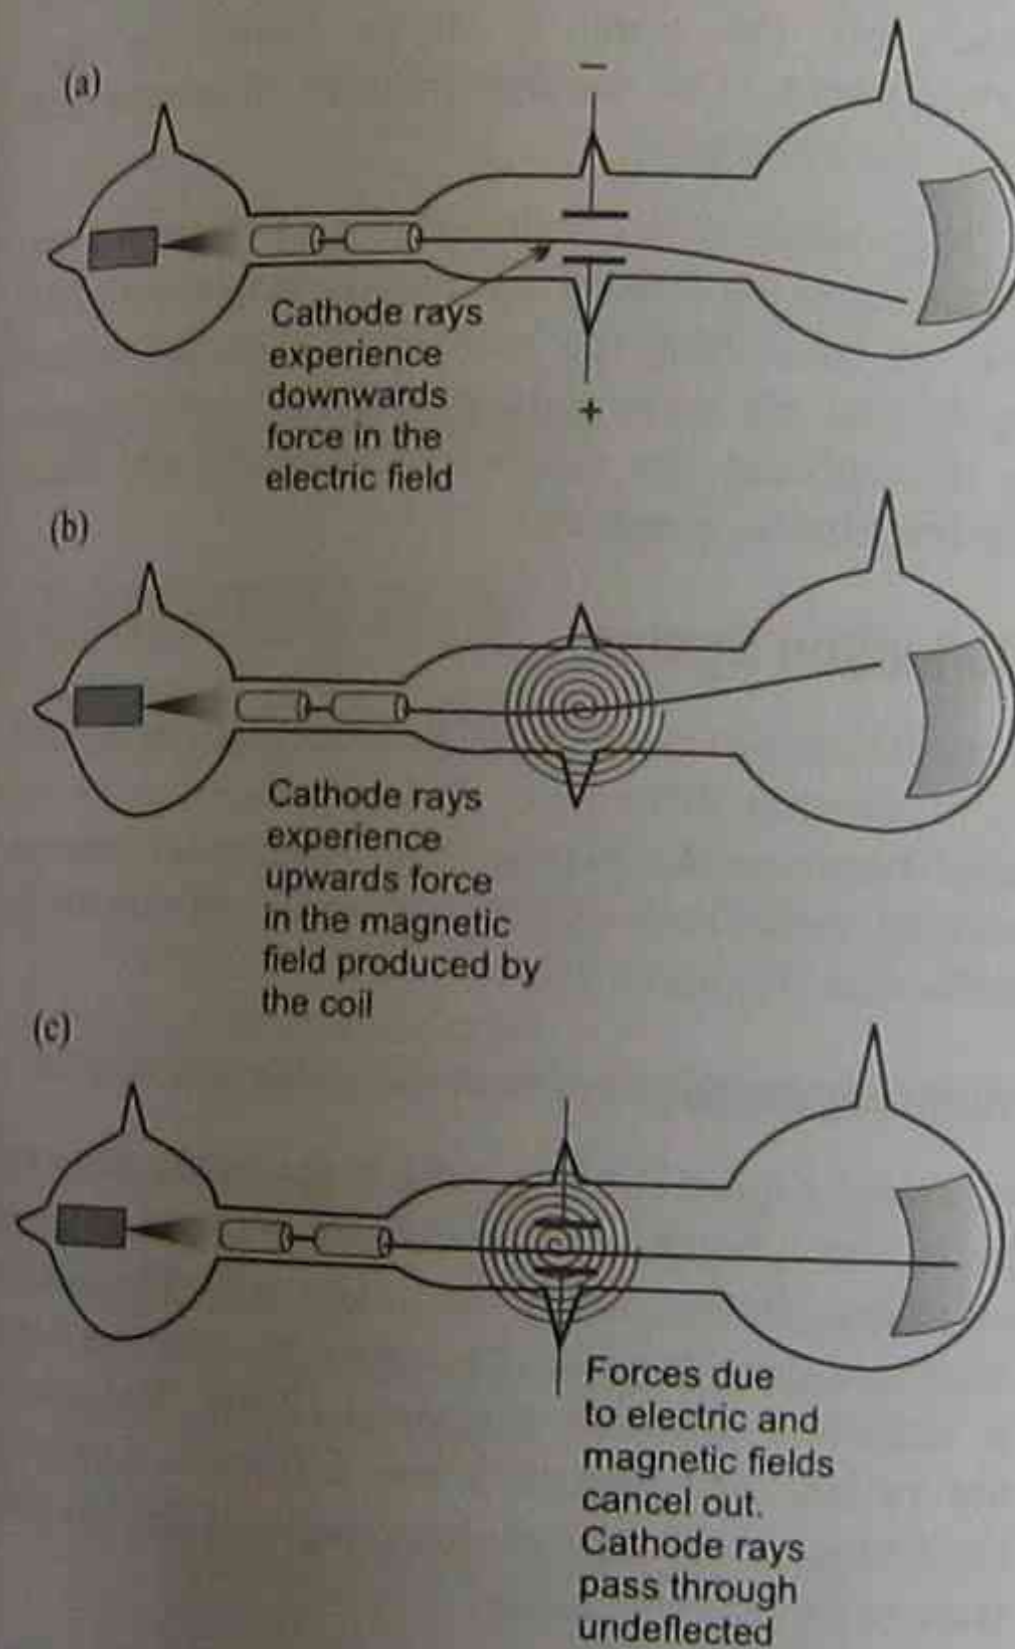

Figure 3.10 Determining q/m
By the time Thomson performed his experiment the effects of electric and magnetic fields on charged particles were well known. Thomson arranged electric and magnetic fields in his cathode ray tube so that he could 'balance out' the forces acting on the cathode rays (Figure 3.10).
- 1 In Figure 3.10 the cathode rays pass through the slots in the cylinders making a near parallel beam that hits the end of the glass tube in the centre.
- 2 The presence of an electric field alone would cause the beam to be deflected down (in this case) with a force of qE where q is the charge and E is the electric field strength as in Figure 3.10(a).
- 3 Similarly a magnetic field could be arranged that would cause the beam to be deflected upwards in the arc of a circle with a force of qvB (Figure 3.10(b)) that is:
- 4 By arranging the strength of the two forces, the beam could be made to pass through undeflected (Figure 3.10(c)). When this happens the two forces are balanced, that is, $qE = qvB \Rightarrow v = \frac{E}{B}$ and since E and B could be calculated from the geometry of the plates and coils, v could be found and hence q/m could be calculated.